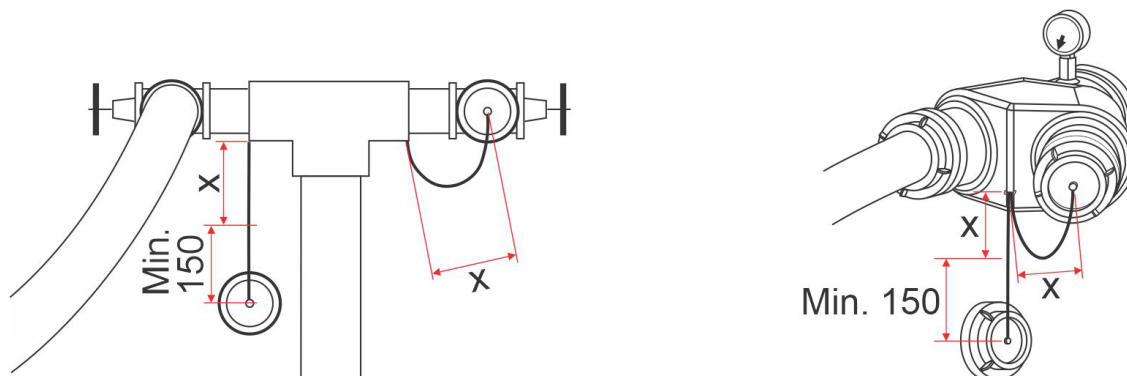

Figure 1 Example of free length required of retaining chain or wire
**Note:** FRNSW recommends a free play length not less than 150 mm longer than the distance from the anchor point to the fitted position (refer to Figure 1).